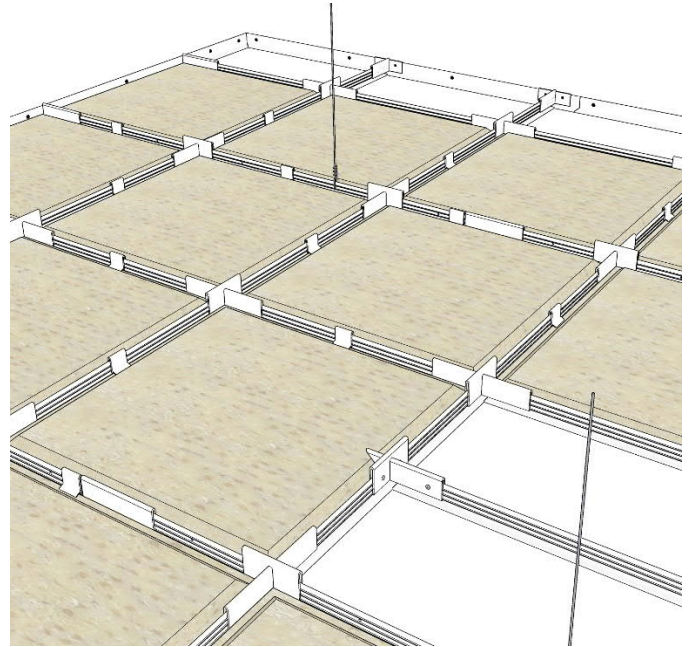

FIG. 21
1. Start installation of the full size lay-in ceiling panels on one side of the room using the proper **Panel Clips**. The **Panel Clips** are positioned at One (1) per side at 29" or less in panel size or Two (2) per side at 30" or more in panel size. FIG. 21